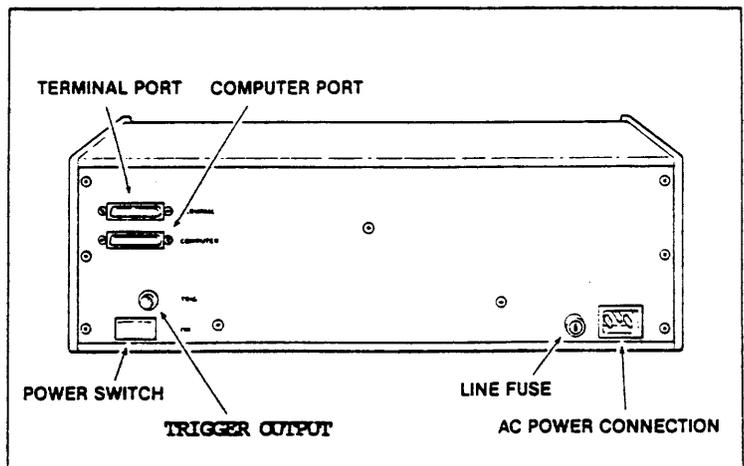

Figure 2-1.
2.3.1 The Rear Panel The rear panel of the Satellite Emulator is shown in Figure 2-1. The two serial ports are labeled **TERMINAL** and **COMPUTER**, to signify which is used for connection to a CRT terminal and which is for a host system, printer, or other source of data files. Be sure all peripherals are connected to the proper serial port.